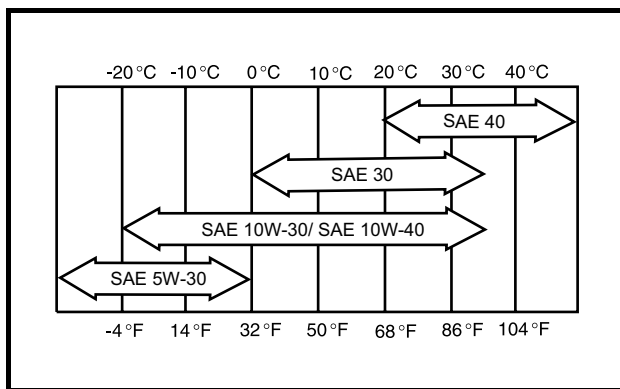
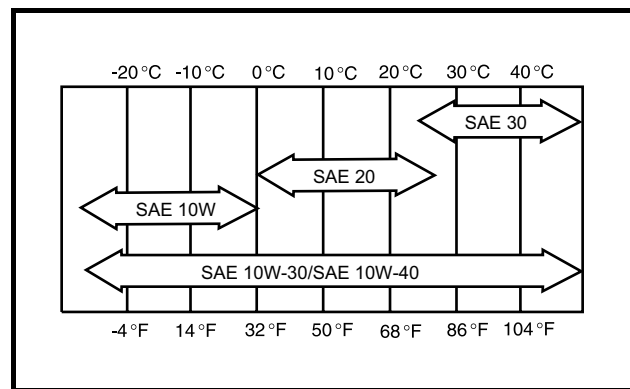

Figure 27 Oil Viscosity Chart – Gasoline Vehicles
Figure 28 Oil Viscosity Chart – Diesel Vehicles
2. Refer to oil viscosity guidelines for selection of oil grade (**Figure 27 or Figure 28**). **See following CAUTION.**
Choose the viscosity according to the temperature as shown in the appropriate oil viscosity chart (**Figure 27** or **Figure 28**). See following **NOTE**.